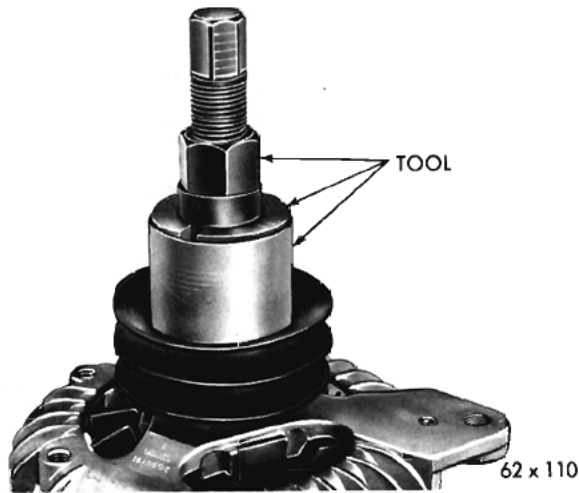

Fig. 25—Removing Pulley
(6) Carefully apply pressure with the tool pressure screw until the support tool rectifier end shield and remover pin and remover adapter are in alignment then press the rectifier out of the end shield or heat sink.
(7) The pulley is an interference fit on the rotor shaft. Remove the pulley with Puller Tool C-3615 or C-3934 and special adapters (Fig. 25).